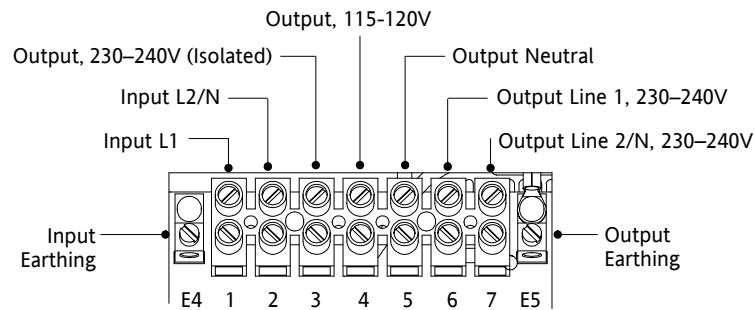
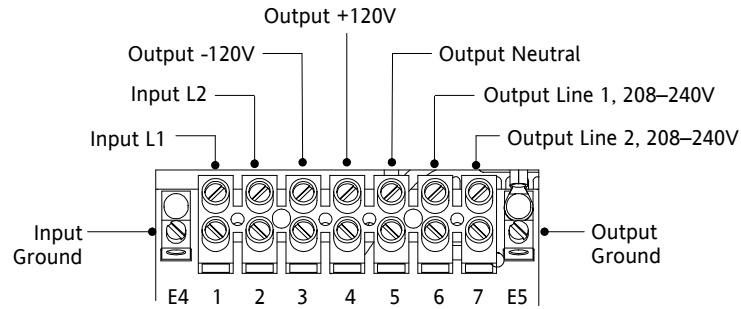

Figure 12. PPDM EURO HW Model Terminal Block
Figure 13. PPDM HW Model Terminal Block
9. Connect the input and ground wires to the input terminal block according to Figure 12 or Figure 13 and Table 3.
10. Connect the output and ground wires to the output terminal block according to Figure 12 or Figure 13 and Table 3.